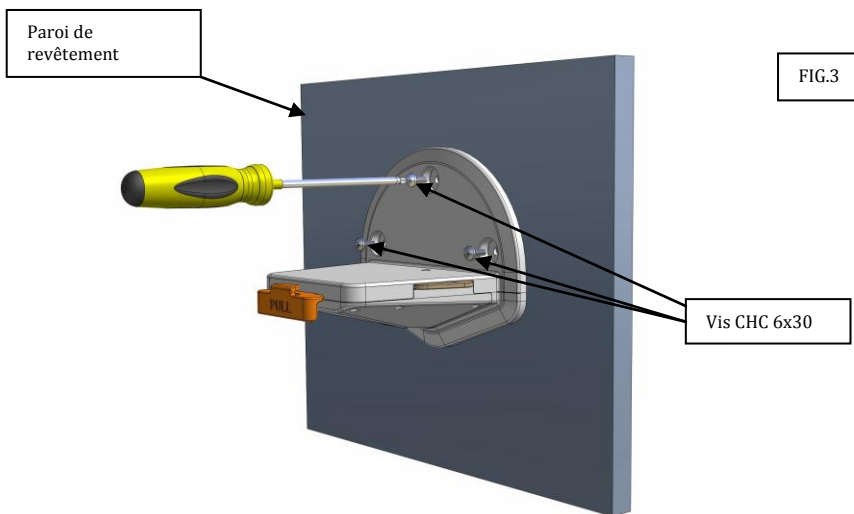

FIG.3
- Figure 3 shows the correct installation of the bracket support
- La bonne installation de l'étrier de support est reportée sur la figure 3.